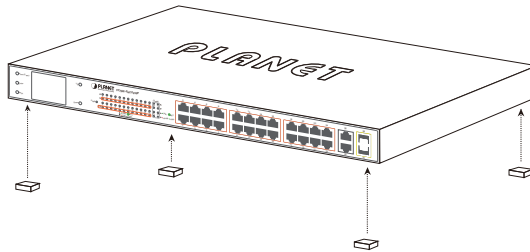

Figure 3-1: Attaching the Rubber Feet to the LCD Switch
Step 1: Attach the rubber feet to the recessed areas on the bottom of the LCD switch, as shown in Figure 3-1.